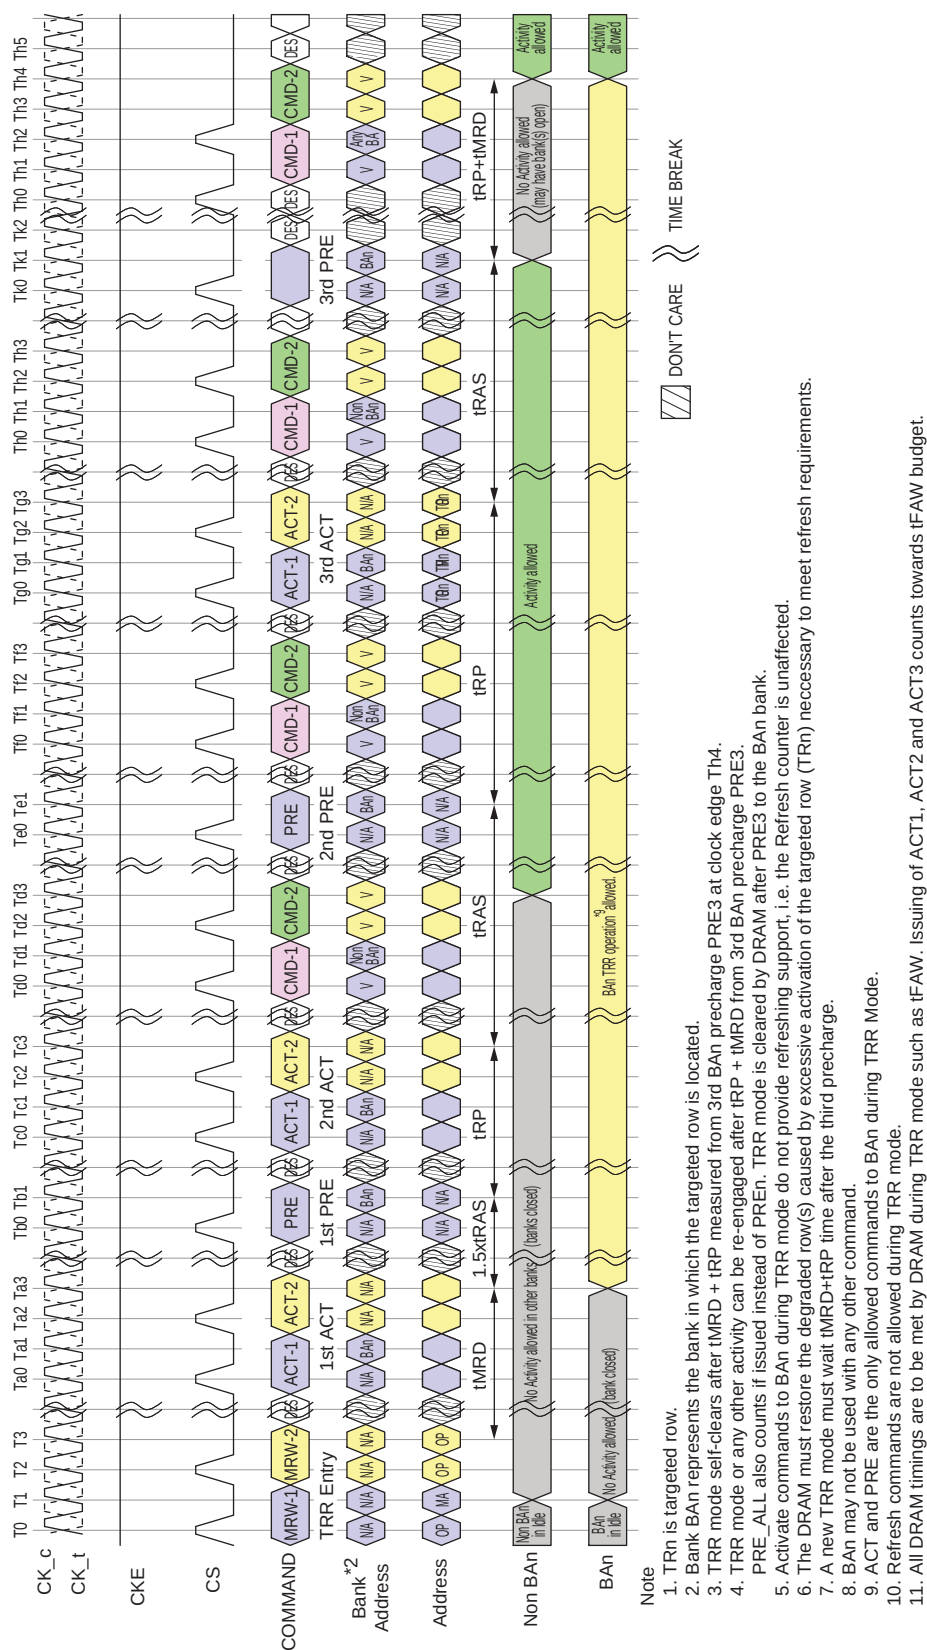

Figure 4.129 — TRR Mode
1. The timing diagram in Figure 4.129 depicts TRR mode. The following steps must be performed when TRR mode is enabled. This mode requires all three ACT (ACT_1 , ACT_2 and ACT_3) and three corresponding PRE commands (PRE_1 , PRE_2 and PRE_3) to complete TRR mode. A Precharge All ($PREA$) commands issued while LPDDR4 SDRAM is in TRR mode will also perform precharge to BAn and counts towards a PRE_n command.